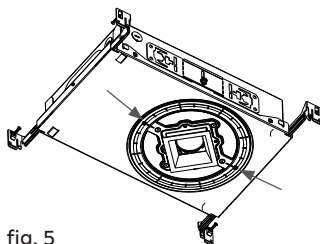

fig. 5
3. *Optional:* If using a square aperture with a flange, realign the collar parallel to the wall (see fig. 5).